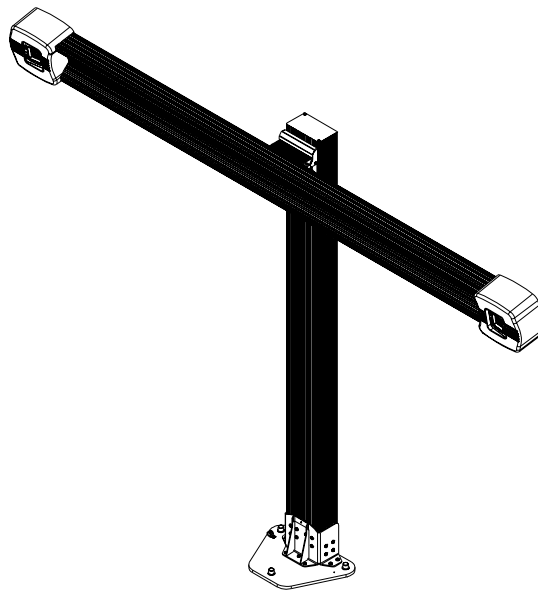

Figure 9
4. Raise the camera beam to the desired height as recorded earlier in the *Installation Dimensions Worksheet*. Use a torque wrench with a 1/2 inch socket to tighten all four ESNA nuts to 40-50 in-lbs torque. Figure 9.